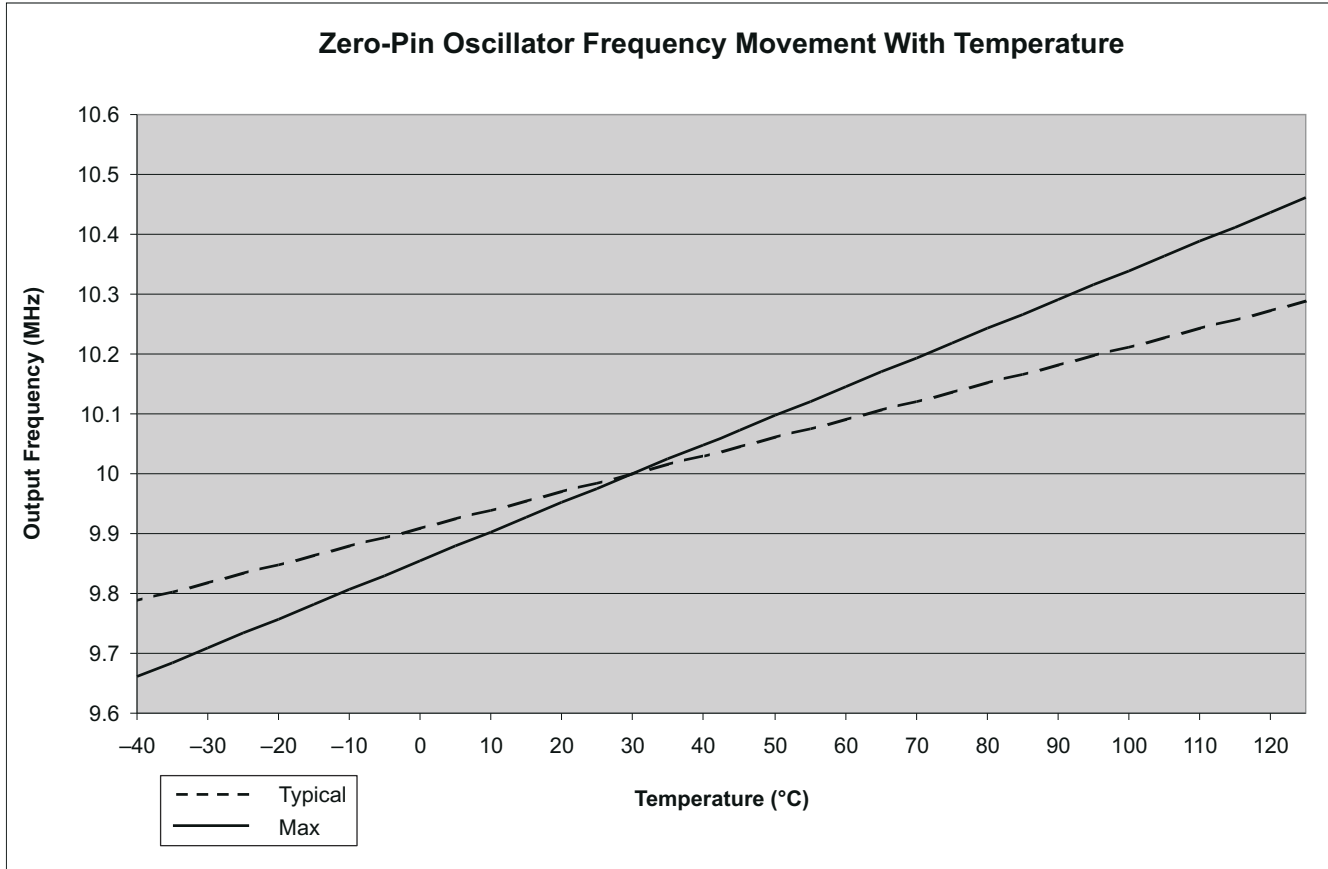

图 7-9. Zero-Pin Oscillator Frequency Movement With Temperature
- (1) Oscillator frequency will vary over temperature, see 图 7-9. To compensate for oscillator temperature drift, see the Oscillator Compensation Guide and C2000Ware for C2000 MCUs.
- (2) Frequency range is ensured only when VREG is enabled, $\overline{VREGENZ} = V_{SS}$.
- (3) Output frequency of the internal oscillators follows the direction of both the temperature gradient and voltage (V_{DD}) gradient. For example: